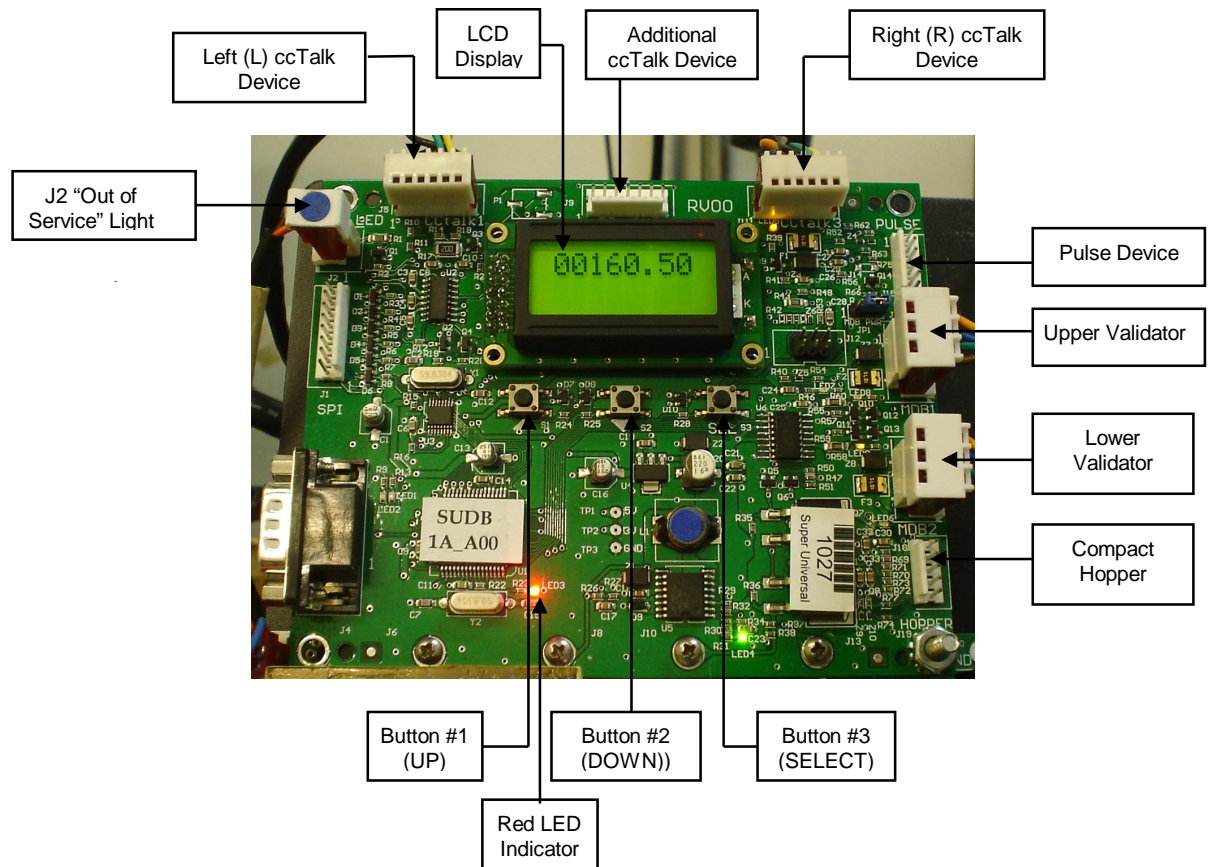

Figure 1 – Main Logic Board
Power-ON the changer, and allow it to run through its start-up procedure, which may take up to a minute or more. During this time, you will hear the validator motors cycling. This is normal. After waiting the allotted time, the changer will be in its Standby state, ready to accept bills or coins. In this state, the MLB display's backlight will be on continuously, and the screen will display the current count of total dollars changed by the machine. Additionally, the board's red LED will blink once per second to indicate that the unit is getting power and functioning normally. (See Figure 1.)
Your changer comes preset with default operational settings that are easily reprogrammed to meet your desired application. Programming is done using the three buttons and LCD display located on the Main Logic Board as an interface. (See Figure 1.)
ccTalk: Select this option if using one or more hoppers with a pulse interface to the Main Logic Board (MLB). Once selected, enter the number of pulse hoppers – one or two – to be used in the changer. *Note: Each Logic Board has the capacity to control two pulse hoppers, left and right; but, if only one is used, it must be plugged into the left-side connector (see Figure 1 for the pulse device connections on the MLB). Further Note: If pulse hoppers are selected, pulse validator is automatically selected and all bills are enabled.*
ccTalk: This option should be selected if the installed coin acceptor communicates with the Main Logic Board using ccTalk serial communication protocol (see Figure 1 for the ccTalk device connections on the MLB; contact the coin acceptor's manufacturer or American Changer if help is needed). After choosing ccTalk, the program prompts for specification of the currency type that will be processed by the coin acceptor. Choose either US or Canadian coins.
Pulse: If the installed coin acceptor communicates with the Logic Board using pulse protocol, select 'Pulse' (the Condor Plus uses Pulse communication). Following this, the program will request specification of the logic level used to enable the coin acceptor, high (Hi) or low (Lo) (for the Condor Plus, select high). *Note: The Logic Board can only control one pulse device; if a pulse validator is installed, a pulse coin acceptor cannot be* (see Figure 1 for the pulse device connection on the MLB).
MDB: Select 'MDB,' and then enter how many MDB validators are installed in the changer – either one (1), two (2), or zero (None). (See Figure 1 for the MDB validator connections on the Main Logic Board.)